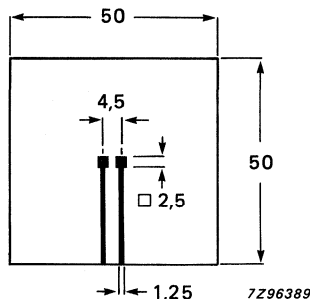

Fig. 2 Mounted on a PCB.
- Thermal resistance from junction to ambient; device mounted on an 1.5 mm thick epoxy-glass printed circuit board; Cu-thickness $\geq 40\text{ }\mu\text{m}$; Fig. 2